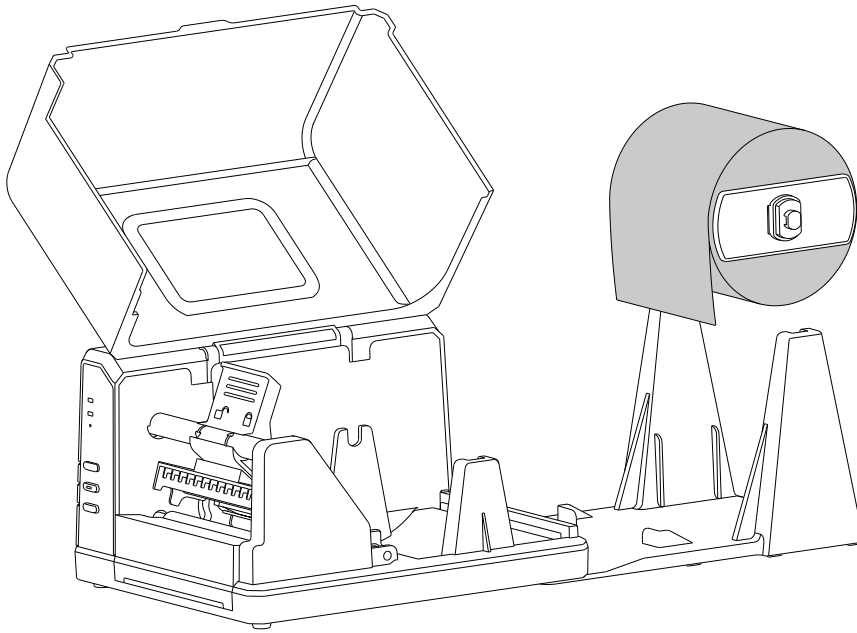

Figure 2-11 Load the Media
6. Position the media roll in the middle of the Spindle, using the ruler on the Media Spindle for alignment. See Figure 2-11.